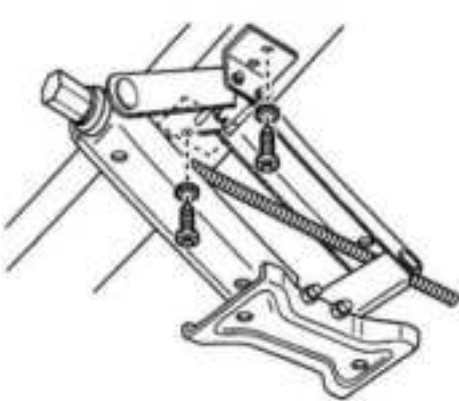

Fig.1
2.4. Reposition jack. Use a 9/16" socket and ratchet to install the jacks to the vehicle frame using four screws and four lock washers per jack (Fig.1).